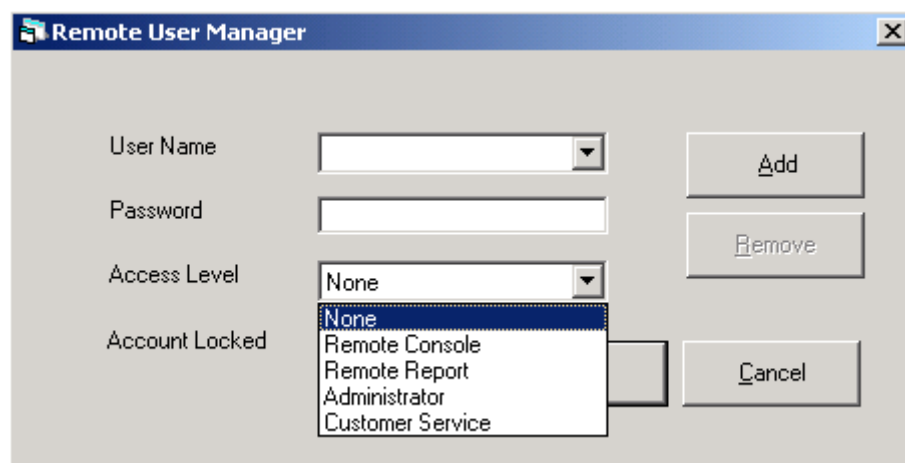

Figure 5.5 Remote User Manager Access Levels
- 3 Click **Add** (Figure 5.5).
Select the Access Level privilege for the user (Figure 5.5).